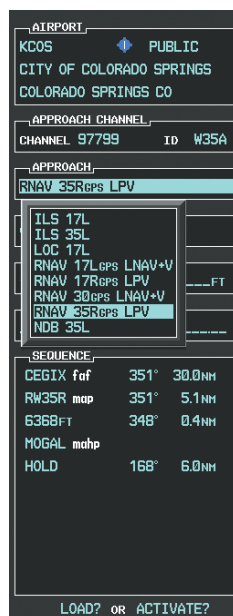

Figure 5-126 List of Available Approaches
- c) Press the **ENT** Key. A list of available approaches for the destination airport is displayed as in Figure 5-126.
- d) Turn either **FMS** Knob to select the LPV approach for 35R as shown in Figure 5-126.